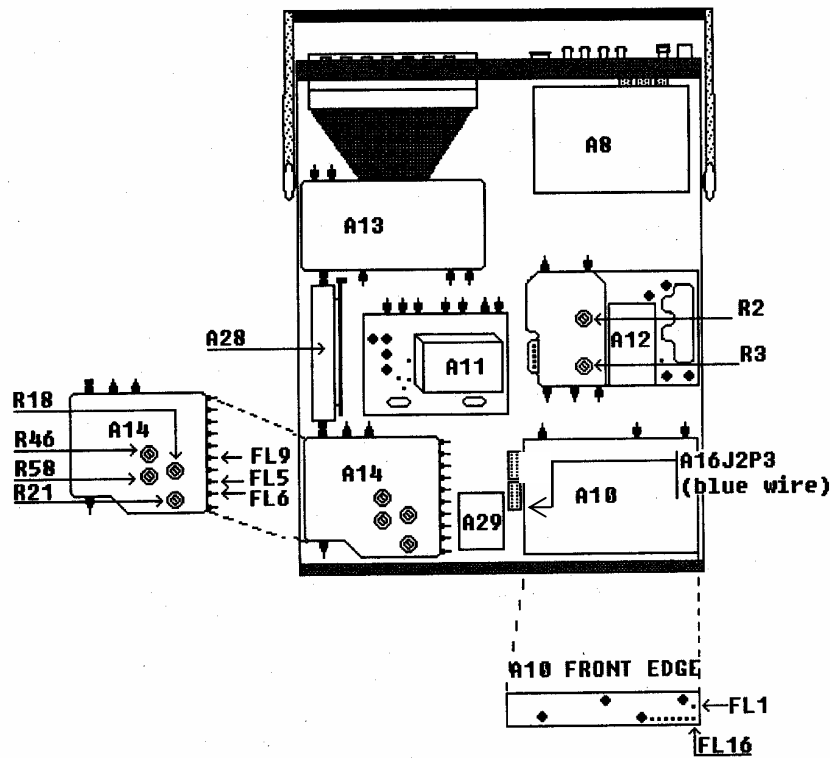

Figure 5. Test instrument - bottom view.
A12R2 and A12R3 (fig. 5) are interactive and adjustment will be extremely sensitive.
- (32) Alternately adjust A12R2 and A12R3 (fig. 5) on receiver IF module for minimum amplitude of the 1st LO signal -50 dBm maximum (R).
(2) Press **MODE RF GEN** (MODE RF GEN display), **Level (F3)** (Level display), **DATA ENTRY ± 1 2 7** and **ENTER** keys (-127 dB).
(3) Press key sequence listed in (a) through (f) below:
(4) Stand TI on end and locate power term, A14 (fig. 5) in lower left hand corner.
(5) Press **MODE MTRS** (Meters Menu) key and **DATA ENTRY 3** key (Pwr Meter (Pulse/CW)).
(6) Press **Range (F1)** and **DATA SCROLL** arrow keys to select **2 W** range, then press **DATA ENTRY ENTER** key.
(7) Connect a 50 Ω load to TI **T/R**.
(8) Connect multimeter to A14FL9 (fig. 5) RF power level output, and set multimeter to measure V dc.
(9) Adjust A14R21 (fig. 5) for a multimeter indication of 20 mV dc ±2 mV (R).
(10) Press **Range (F1)** key, press **DATA SCROLL** arrow keys to select **200 W** range. Press **DATA ENTRY ENTER** key.
(11) Adjust A14R18 (fig. 5) for a multimeter indication of 10 mV dc ±2 mV (R).
(12) Press **Range (F1)** and **DATA SCROLL** arrow keys to select **2 W** range, and press **DATA ENTRY ENTER** key.
(13) Remove the 50 Ω load from TI **T/R**.
(14) Connect measuring receiver sensor module to RF power amplifier **OUTPUT** using 10 dB attenuator (fixed).
(15) Adjust signal generator frequency to 85 MHz and output to 10mV. Adjust RF power amplifier gain to minimum then adjust gain and signal generator output until measuring receiver indicates exactly 33 dB (2 W) minus 10 dB attenuator (fixed) insertion loss.